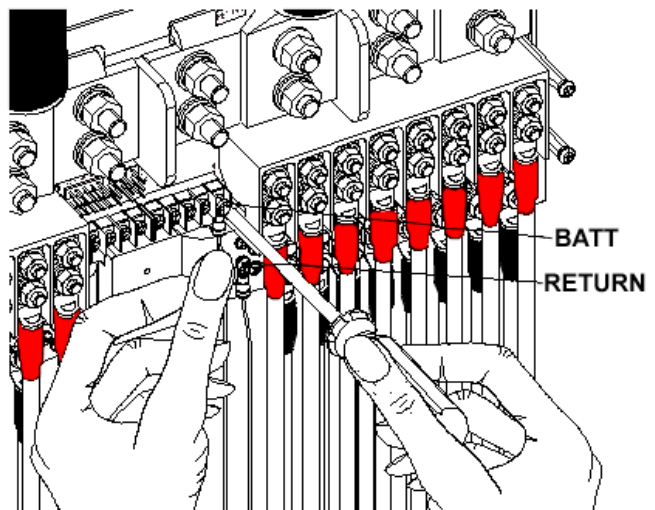

Figure 12 - GMT Output Lug Connections
30. If required, lightly coat an anti-oxidant on lug/wire and output **BATT** and **RETURN** terminals, and then connect to terminals, as shown in Figure 12. (NEC specifies only one load at each output terminal.)